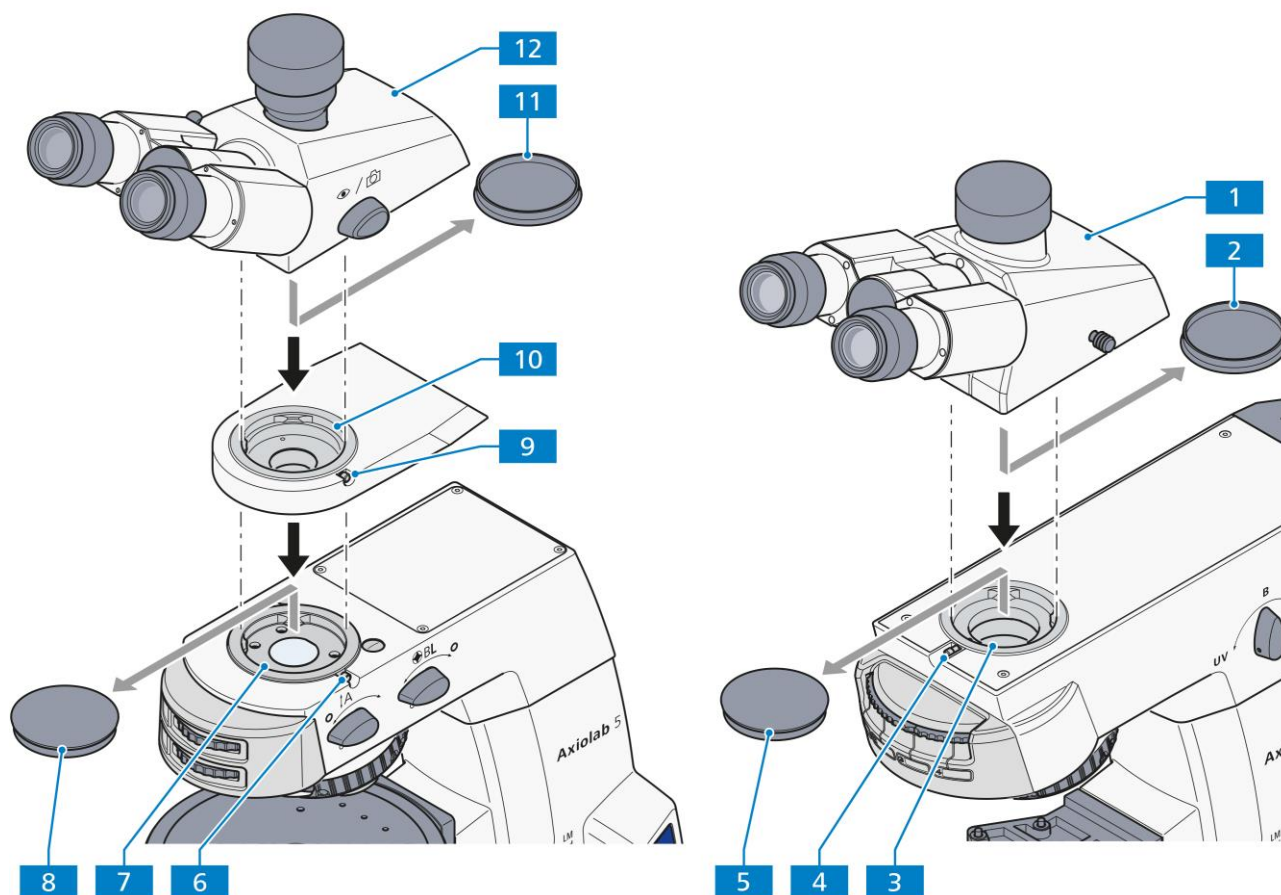

Fig. 3-3 Attaching the binocular tube
- Loosen the screw (Fig. 3-3/4) with an Allen wrench (AF 3). Remove the dust caps (Fig. 3-3/2, 5) from the underside of the tube and the dovetail ring mount on the stand side.
- Hold the binocular tube/photo tube (Fig. 3-3/1) at an angle, insert it with the dovetail ring into the stand mount (Fig. 3-3/3) and turn into a horizontal position. Rotate the binocular tube into the desired observation position and re-tighten the Allen screw with the Allen wrench.
- Loosen the screw (Fig. 3-3/6) with an Allen wrench (AF 3). Remove dust caps (Fig. 3-3/8, 11) from the underside of the tube and the dovetail ring mount on the stand side.
- Insert the intermediate plate (Fig. 3-3/10) with its dovetail ring into the stand mount (Fig. 3-3/7) and tighten Allen screw (Fig. 3-3/6).
- Insert the binocular tube/photo tube (Fig. 3-3/12) into the intermediate plate, align and tighten the screw (Fig. 3-3/9) with the Allen wrench.